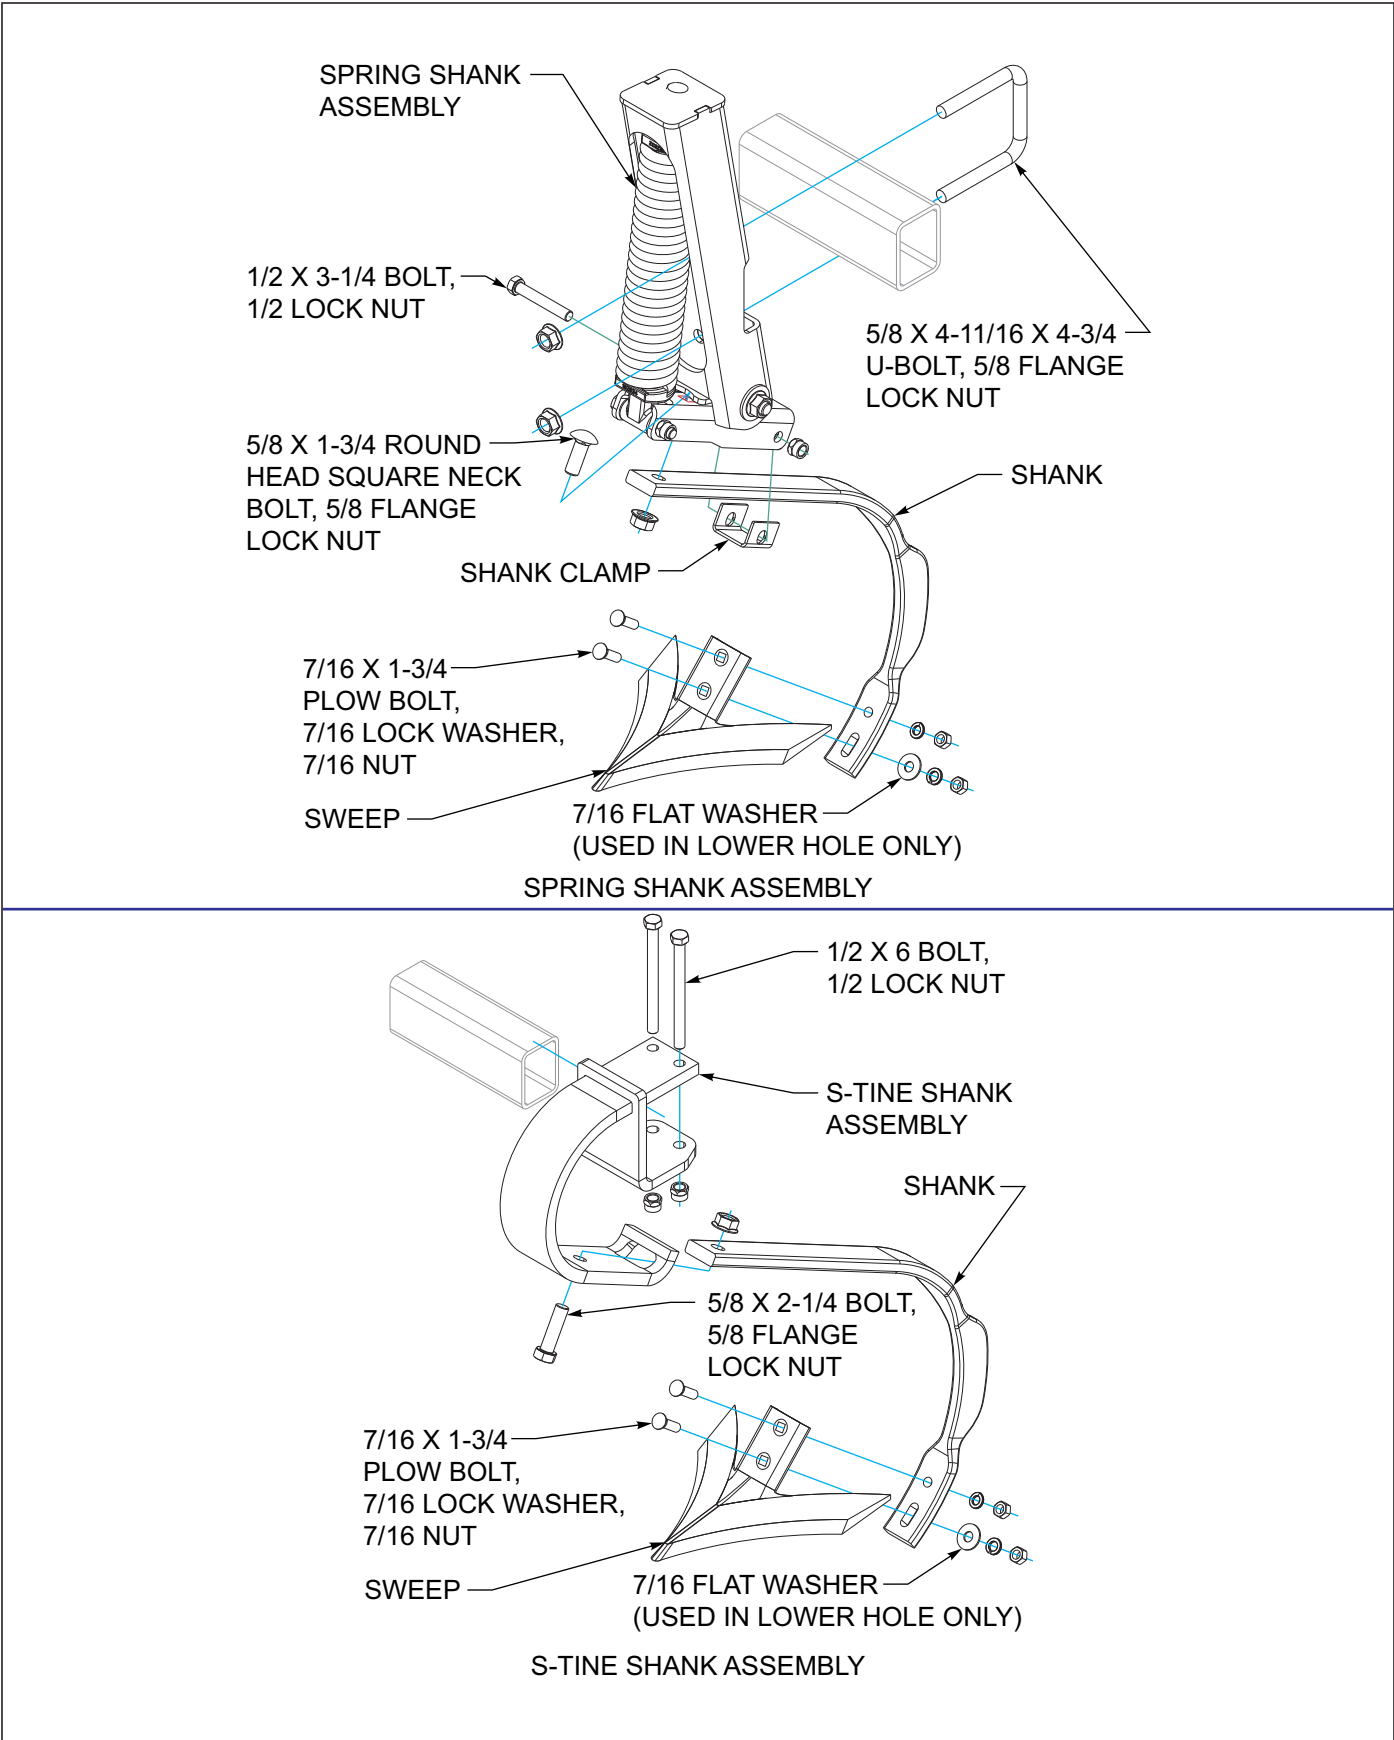

Figure 3-29: Shank and Clamp Installation
2. Install shanks in clamps See Figures 3-29.